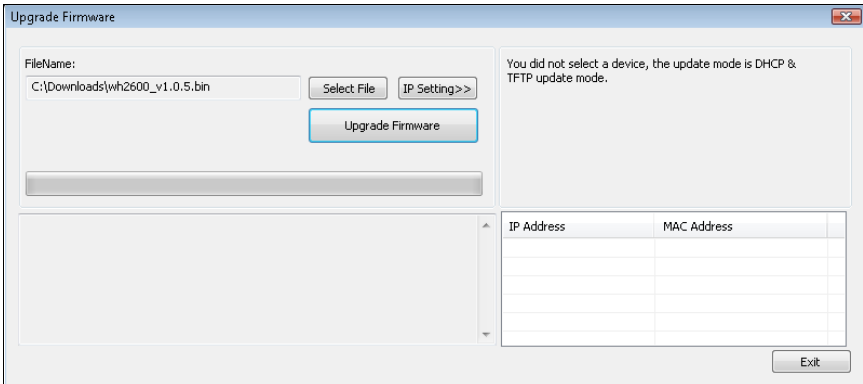

Figure 32
4. Reference Figure 32. Select the **Select File** button, and browse to the location of the file